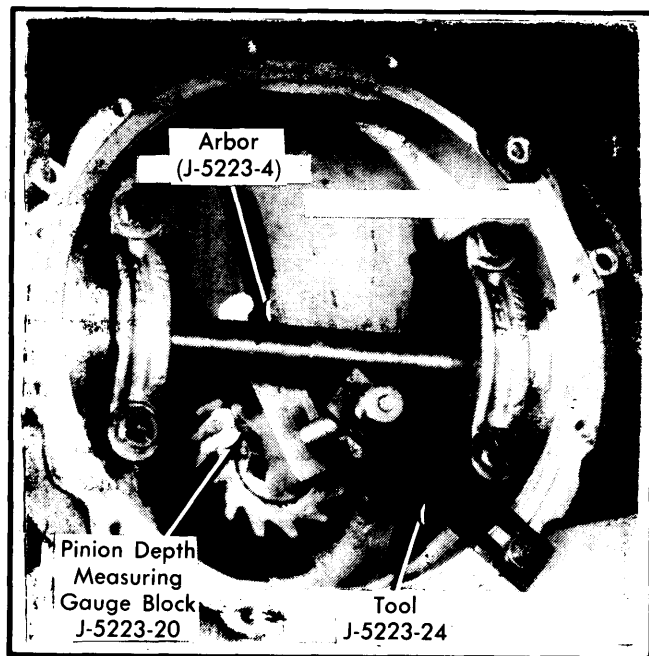

Fig. 4 Measuring Drive Pinion Depth
3) Assemble bolt J-5223-29 and clamp J-5223-24 and mount tools on axle housing. See Fig. 4. Extend clamp bolt until it presses against gauge block. Align gauge block plunger with center of gauge arbor and tighten clamp bolt until it presses against block with enough force to prevent block from moving.